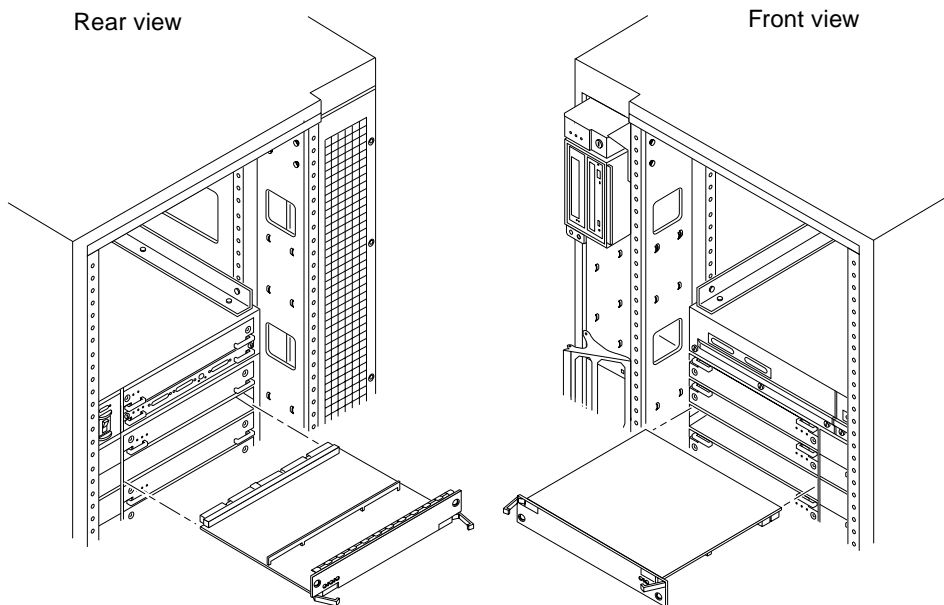

FIGURE 1-3 Board Replacement
3. Carefully insert the board in the proper slot in the card cage, ensuring that the board does not slip out of the left and right card guides (FIGURE 1-3).